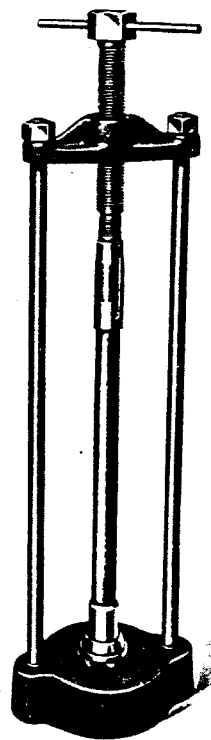

FIG. 5.
4. Remove bottom bearing inner cone from pinion shaft, using puller FT.36A as shown in Fig. 5.